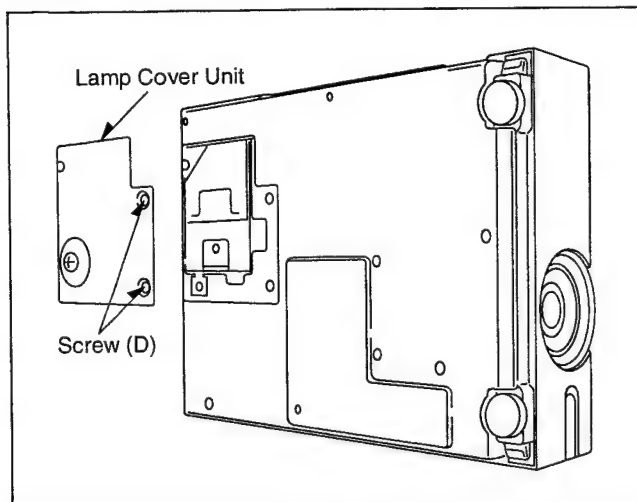

Fig. D5
1. Loosen 2 screws (D) as shown in Fig. D5.